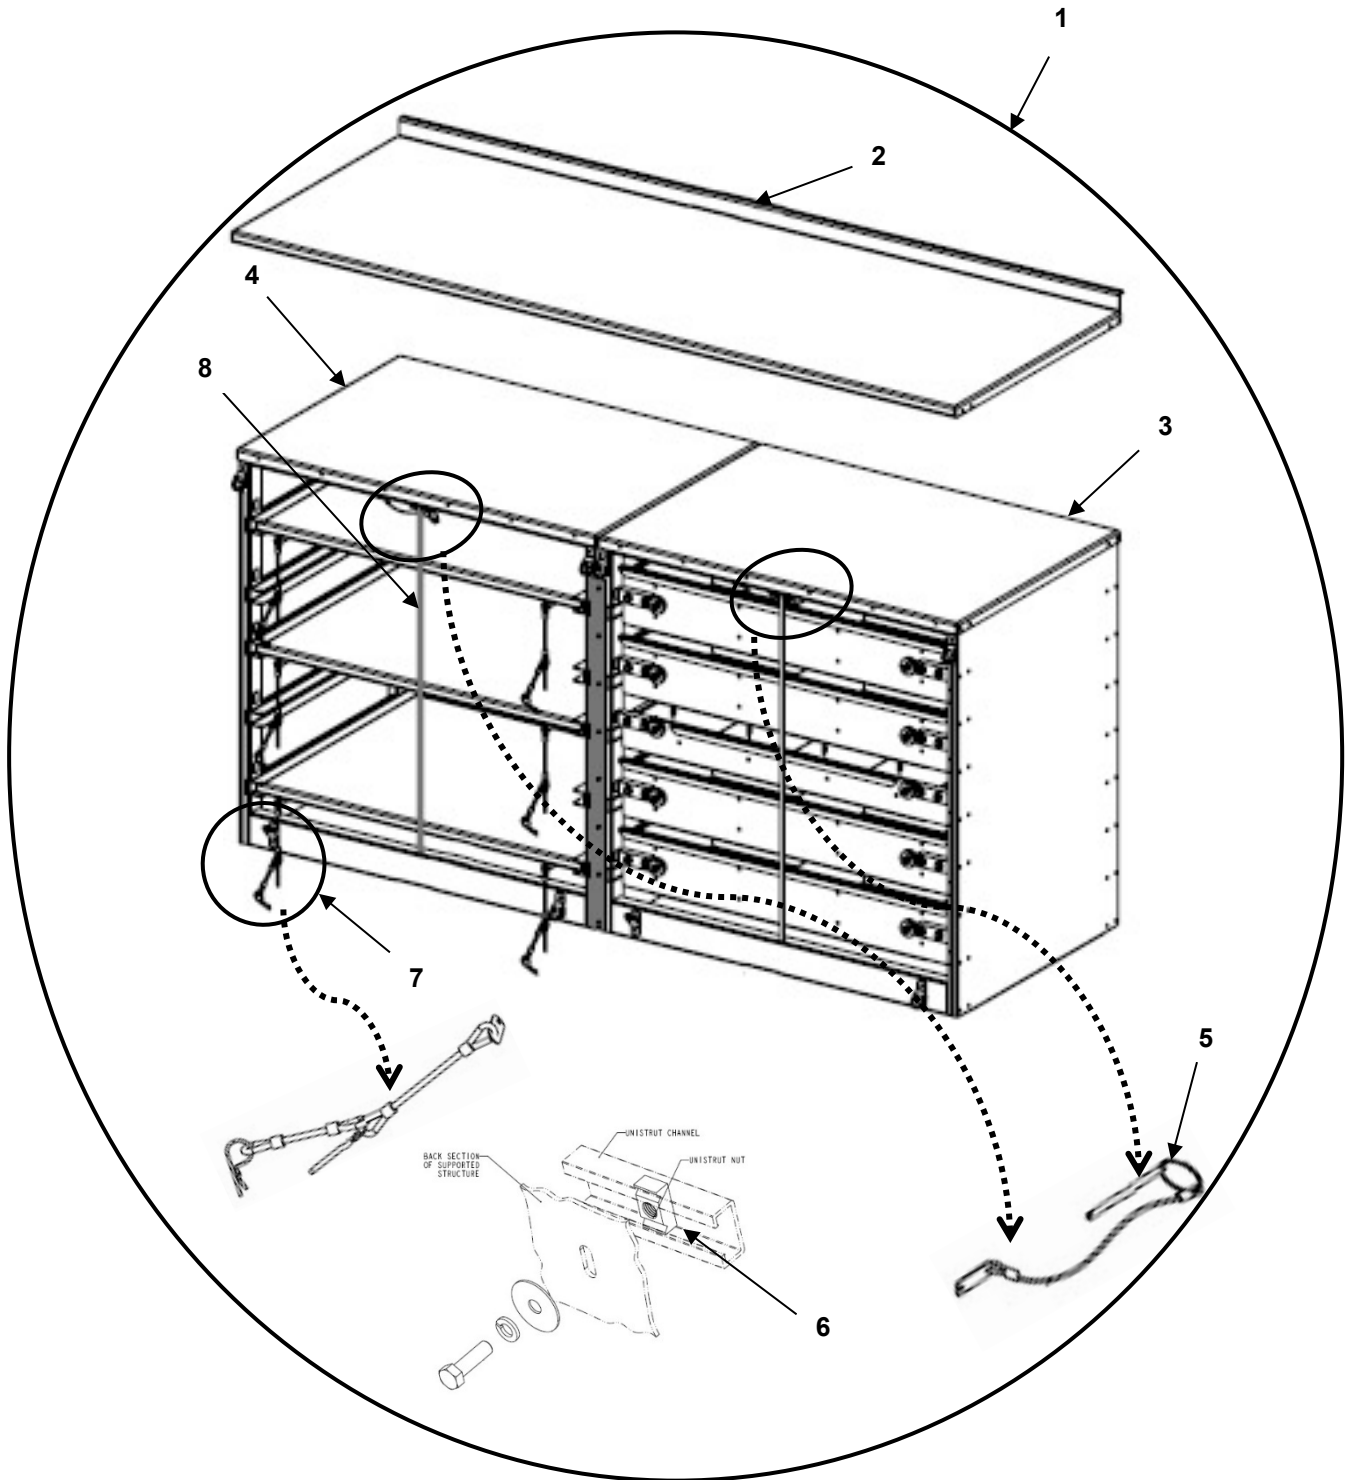

FIGURE 11 LEFT SIDE WORK BENCH
**FIGURES 11 to 15**
GROUP 0204 FIGURE 11 LEFT SIDE CABINETS and WORK BENCH
END OF FIGURE 11